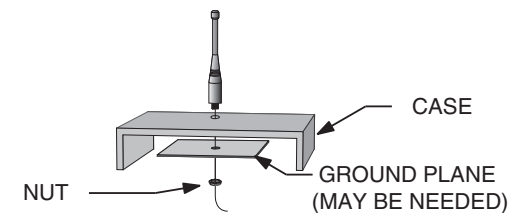

Figure 29: Remote Ground Plane
6. In some applications, it is advantageous to place the module and antenna away from the main equipment (Figure 29). This can avoid interference problems and allows the antenna to be oriented for optimum performance. Always use 50 $\Omega$  coax, like RG-174, for the remote feed.